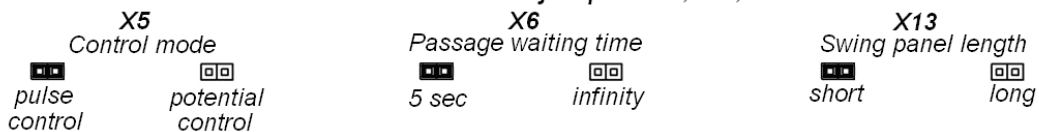
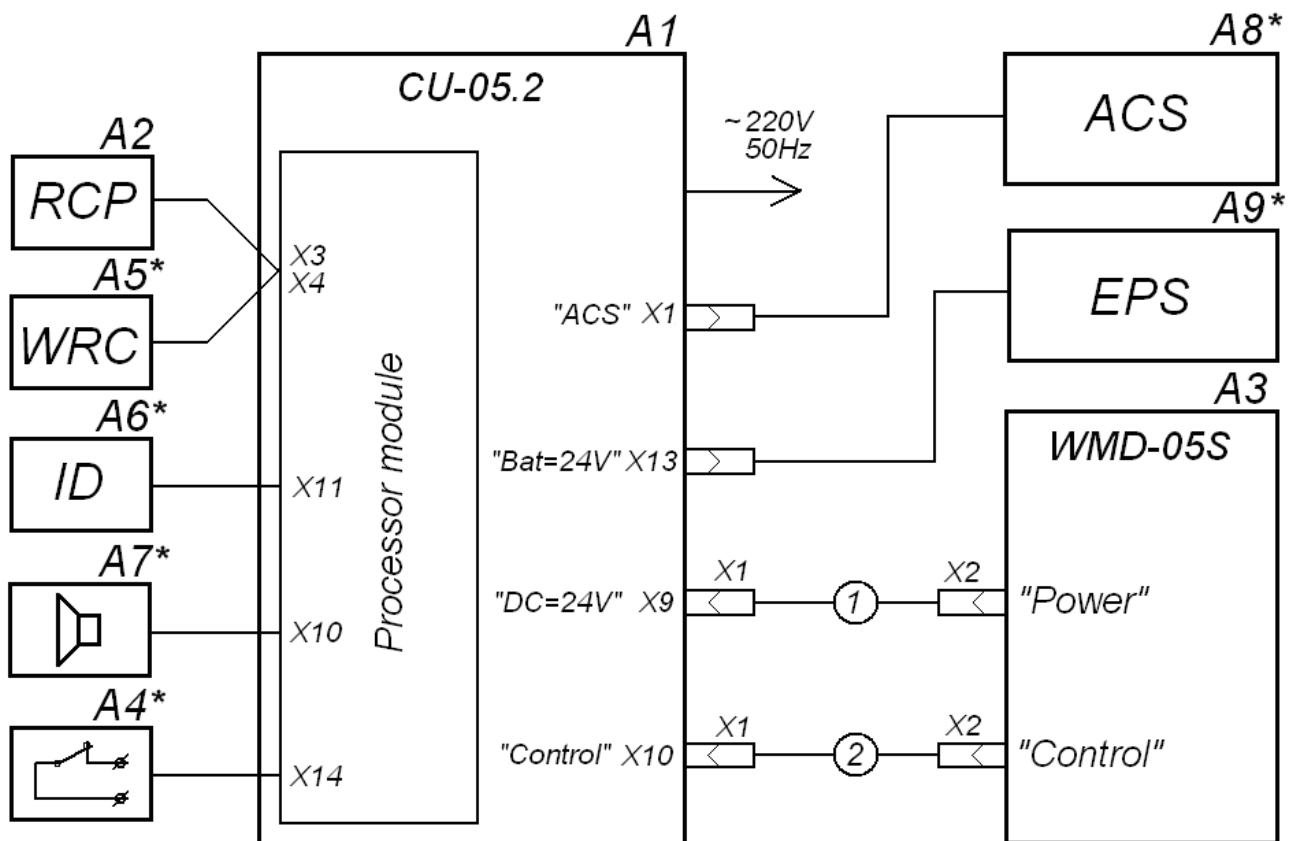

Figure A.1 Processor module of the CU
Figure B.1 WMD-05S connection layout
- disconnect the power cable (13) from the mains;
- change the wires of the remote control panel cable (12) on the connector blocks X3, X4 of the CU processor module (Fig. A.1 of Appendix A and Fig. B.1 of Appendix B) in the following way: the white wire with the green one and the yellow wire with the red one, i.e. connect the wires as follows:
The CU contains a processor module (shown in Fig. A.1) that performs the swing gate control.
Passage waiting time, either 5 seconds or infinity, can be set by means of a jumper at the X6 connector. Locations of the jumper for both variants of passage waiting time are shown in Fig. A.1. At delivery the jumper is installed.
When operated from an ACS the pulse and potential control modes are switched over by jumpers at X5 connector. Positions of the jumpers of the X5 connector are shown in Fig. A.1. At delivery the jumper is installed.